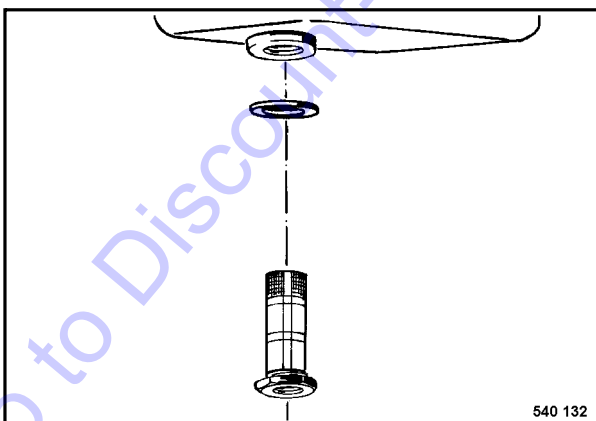

Fig. 2
- Screw the strainer (Fig. 2) out and clean it with gasoline.